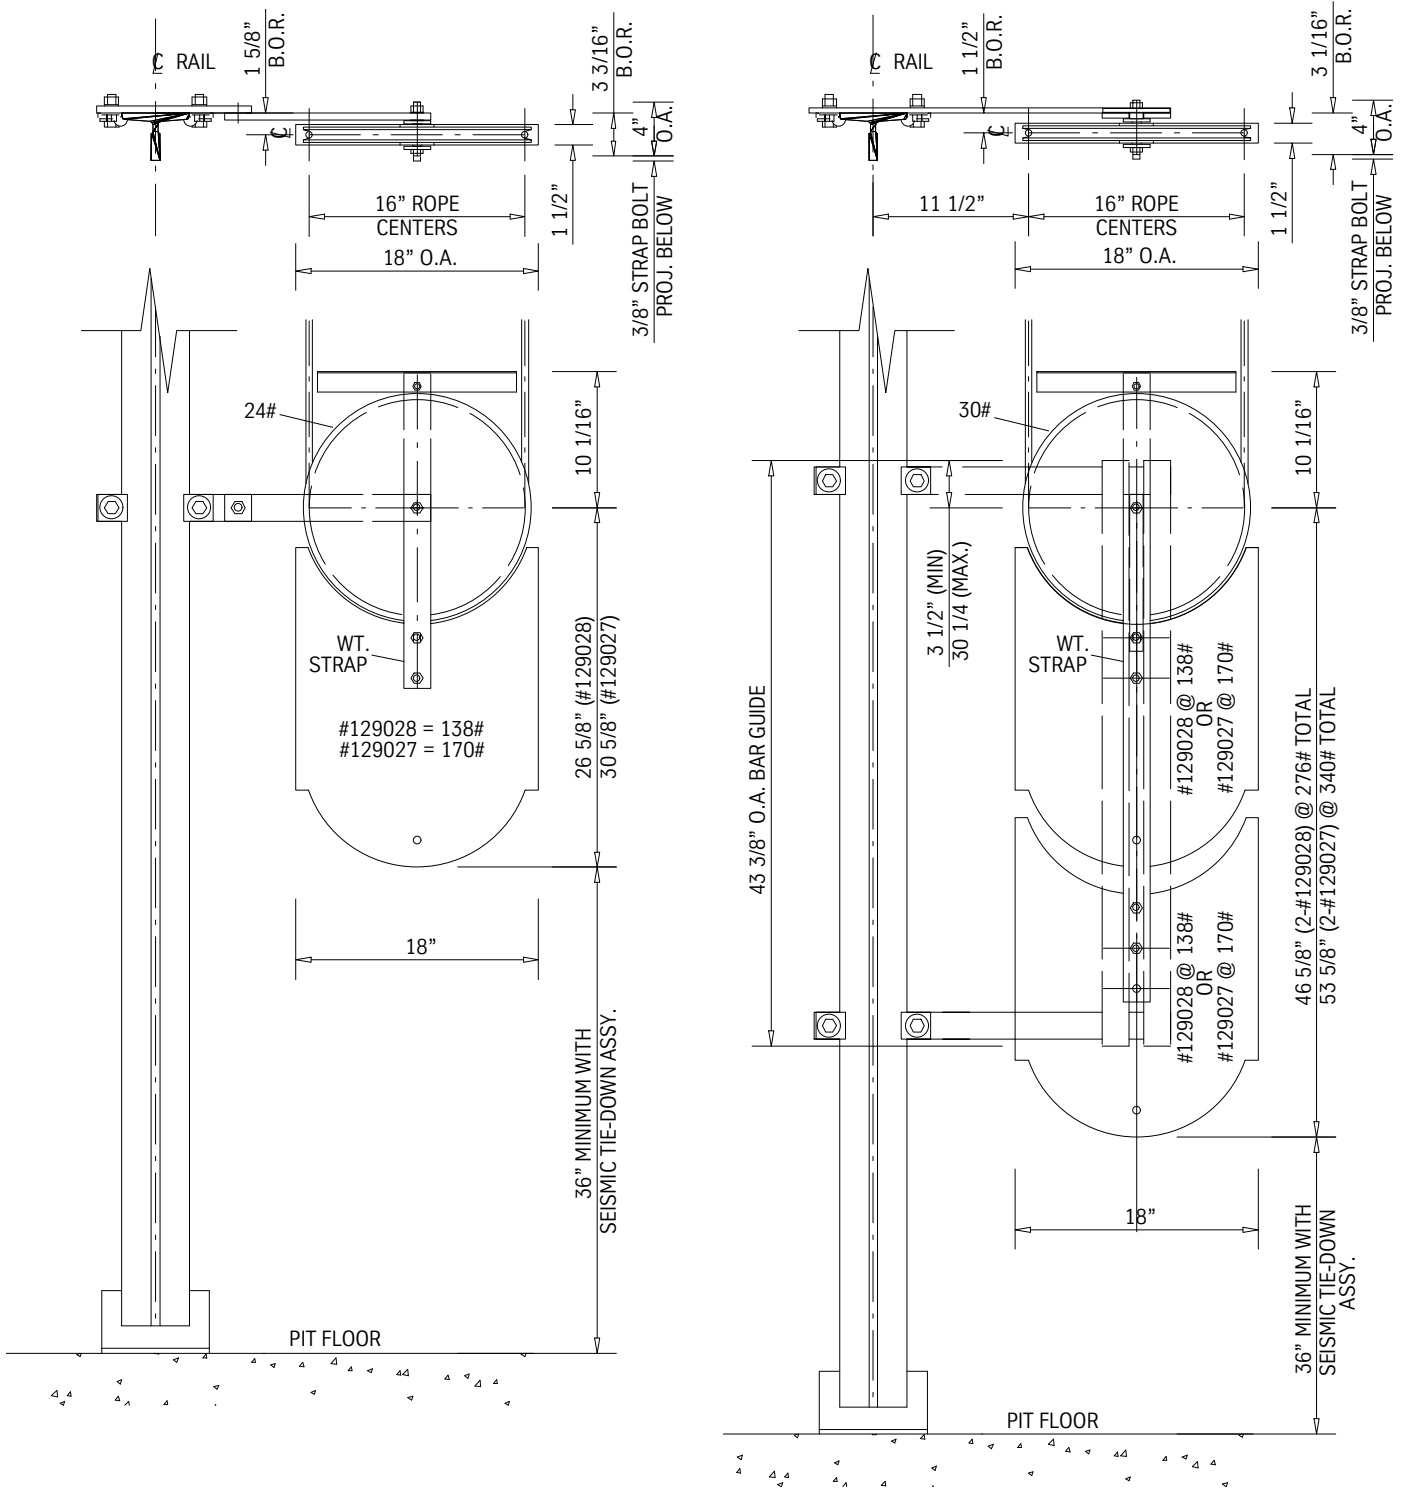

Figure 12 - 16" Governor Tailweight Locations
2. Verify correct placement of the governor tailweight location. See Figure 12 on page 25.